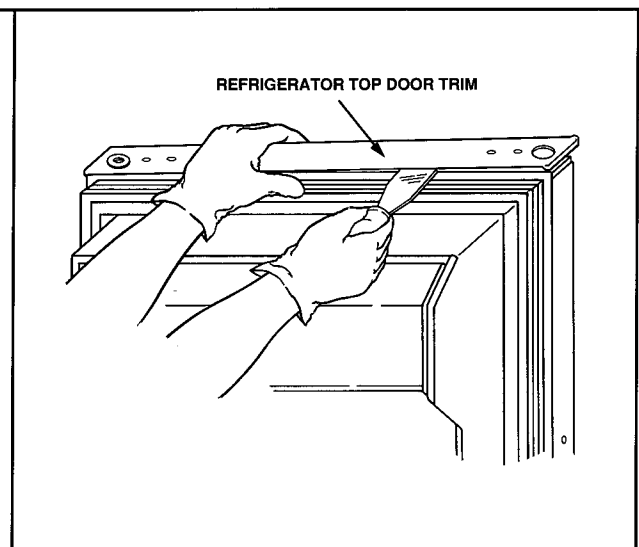

Figure 68
- a. With a putty knife remove refrigerator door top trim. See Figure 68. Do not remove peel-off tape from double back tape on trim.